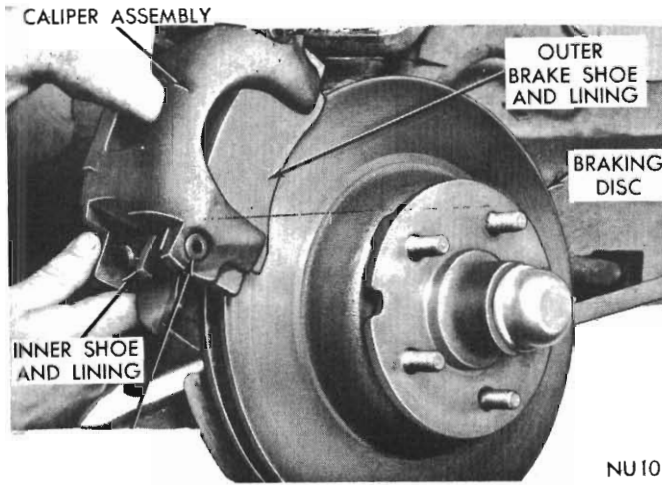

Fig. 6 - Removing or installing caliper head
- (2) Remove caliper location pin bolts which attach caliper housing to mounting (adapter) plate.
- (3) Withdraw caliper housing from over disc and suitably support housing (Refer Fig. 6).